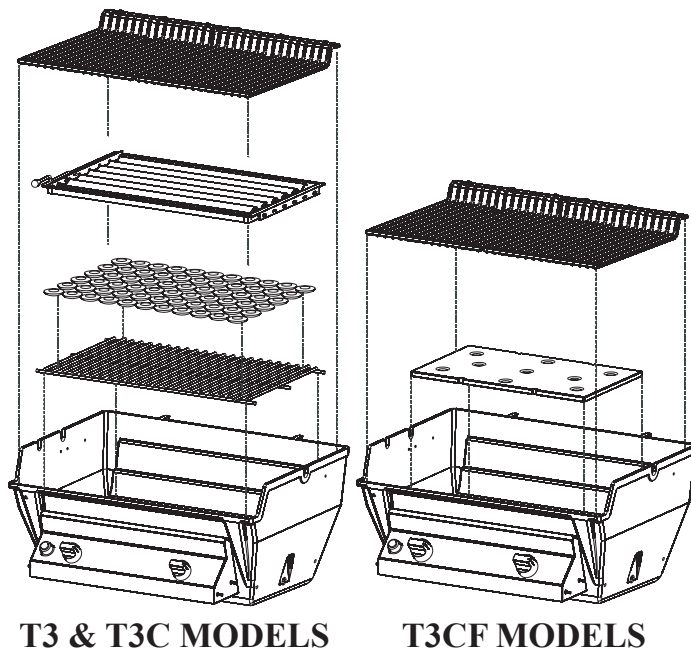

Figure 12
11. Place the briquet rack (7) or flavor screen (9) over the burners. See Figure 12.
12. T3 and T3C models only: Position the Char-Master briquets evenly on the briquette rack without overlapping. See Figure 12.
13. T3CA models only: Position Smoker Shutter (26) see the DPA100 instruction manual included with the T3CA grills. See Figure 12.
14. Set the cooking grids (6). See Figure 12.
15. Push valve knobs (22) on to valves.
See Figure 12.